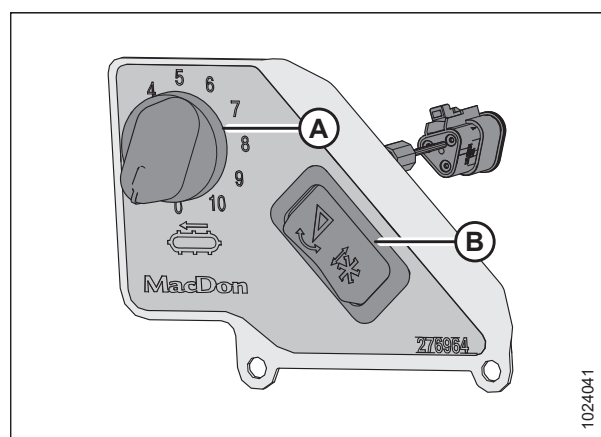

Figure 3.386: In-Cab Side Draper Speed Control
Switch (B) in Figure 3.386, page 255 allows the operator to switch between the header tilt and reel fore-aft controls. For instructions on the controls, refer to Adjusting Header Angle from Combine, page 222.